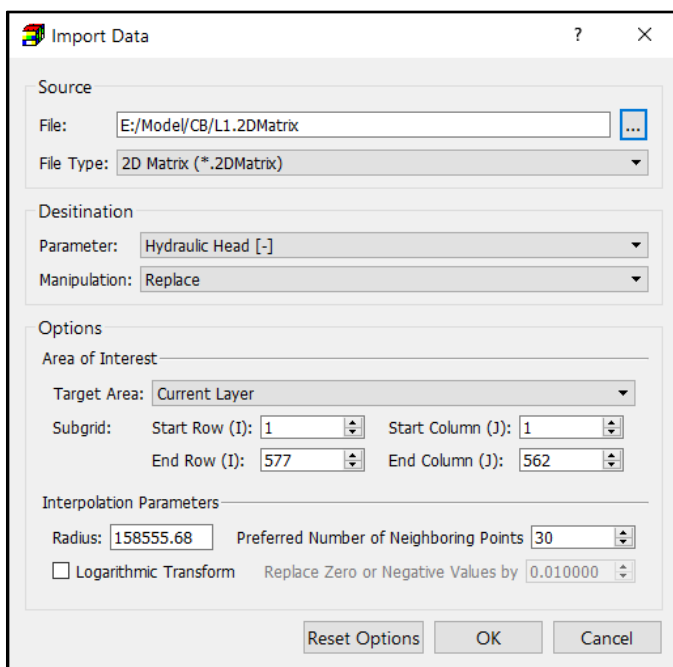

Figure 39. The Import Data dialog box
5. **Import:** Open the Import Data dialog box (Figure 39) that allows you to import cell values from several types of files.